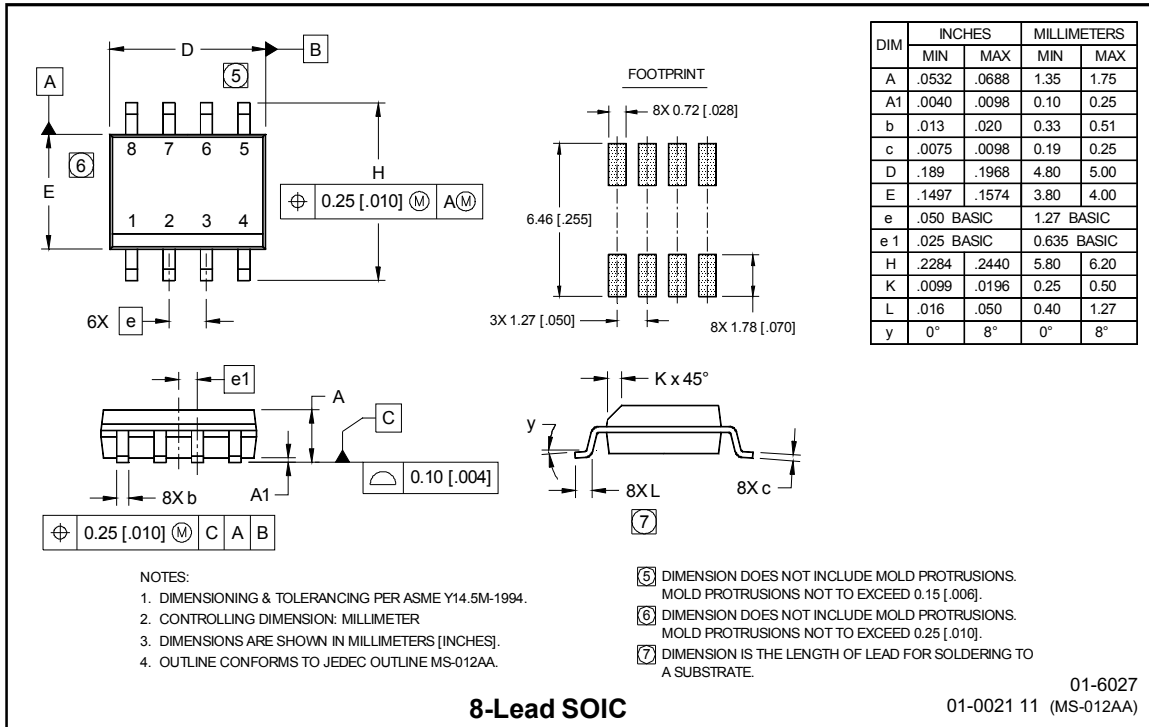

**Fig. 14 - VCC Under Voltage Lockout**
**Fig 14.** Max  $V_{CC}$  Voltage vs. Synchronous Rectifier Switching Freq,  $T_J=125\text{ C}$ ,  $T_{IC} = 85\text{ C}$ , external  $R_G=6\Omega$ ,  $1\Omega$  HEXFET Gate Resistance included